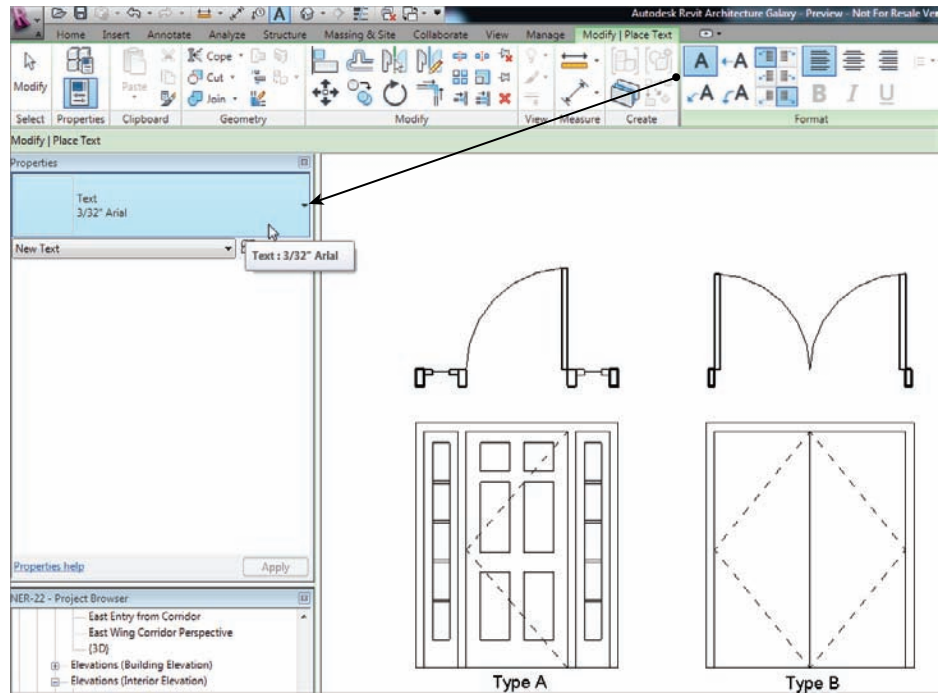

FIGURE 11.45 Placing text underneath the doors
2. Make sure the text style is Text 3/32" Arial and that the leader is set to None, as shown in Figure 11.45.
3. Place some text centered under each door elevation, and label the doors Type A and Type B (see Figure 11.45).